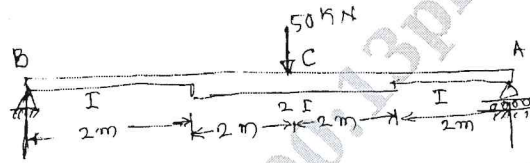

Fig.Q4(a)
- 4 a. Using moment area method compute slope at 'B' and deflection at 'C' for the beam loaded as shown in Fig.Q4(a).